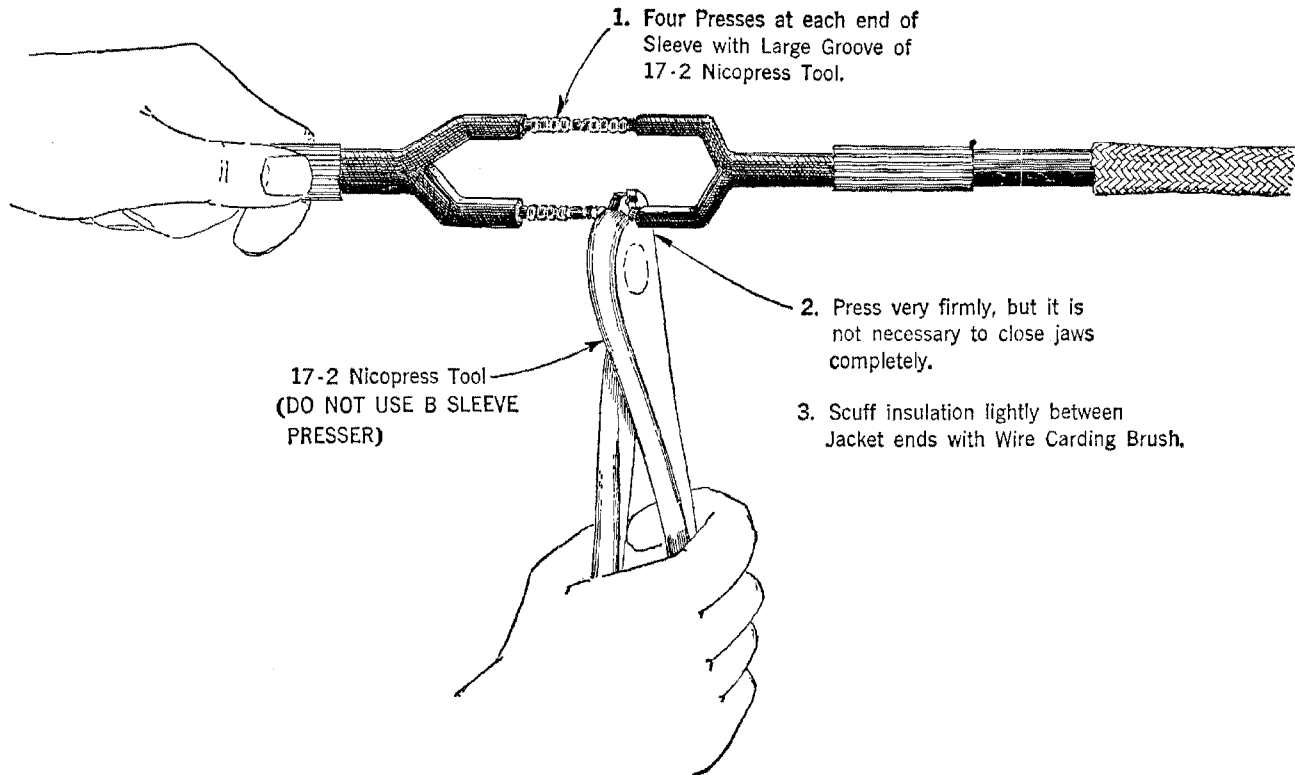

Fig. 4
3.03 Complete the splice by pressing the sleeves as shown in Fig. 4.